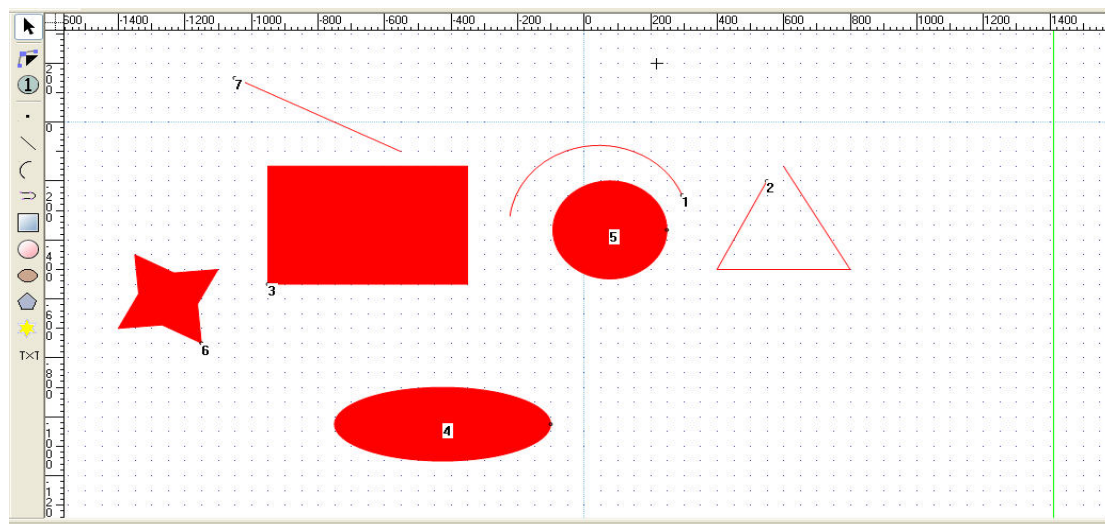

Fig. 4-41 Auto setting machining order
- Click the option [Auto enter set machining order] under [Object] or under right-click menu or click the button  on toolbar, the system automatically setting machining order following the best path algorithm, see Fig. 4-41.